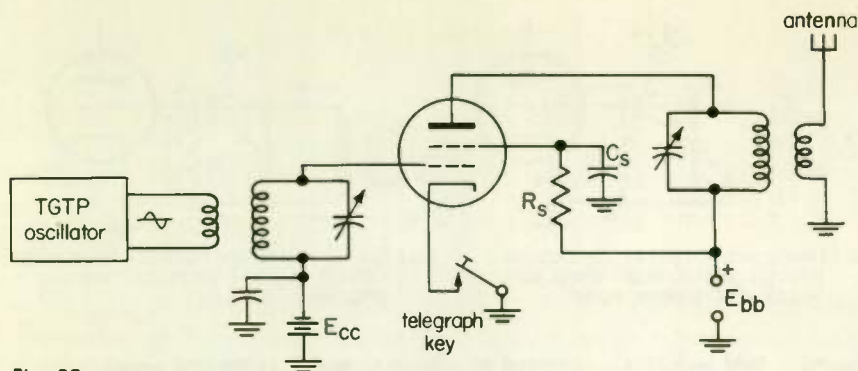

Fig. 39
1. Figure 39 shows a class C amplifier amplifying the output of an oscillator and feeding the amplified signal to an antenna. A telegraph key is provided in series with the cathode of the tube to turn the tube on and off so that it can be used as a CW transmitter. Since the grid draws current on the positive peaks of the input signal, the oscillator must supply (a) _____ to the input of the amplifier. The efficiency of the amplifier is typically (b) _____ per cent. If you used a class B or a class A amplifier instead of a class C amplifier, you would have a (c) (*higher*) (*lower*) efficiency. Can the frequency of the oscillator and the frequency to which the grid tank is tuned be different? (d) _____. If the cutoff value of the tube were -30 volts, would -60 volts be a proper value for E_{cc} ? (e) _____.